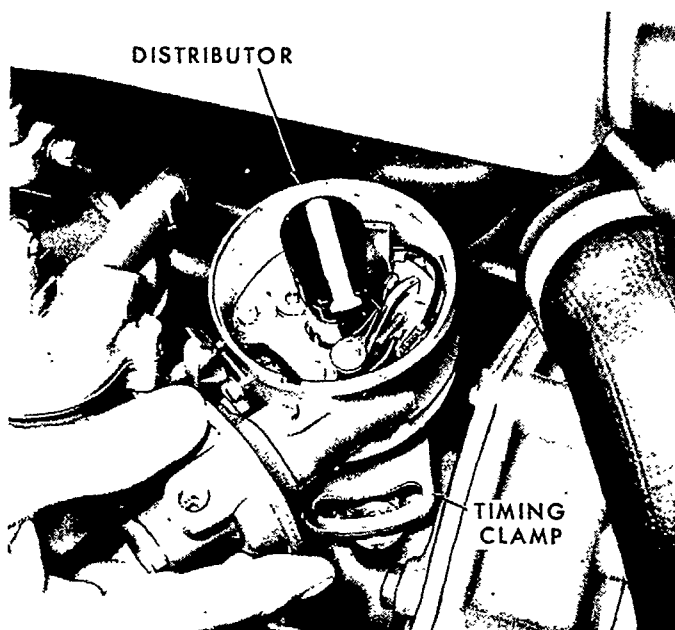

Figure 64
5. Remove the distributor timing clamp retaining bolt and lift the distributor from the drive housing, Figure 64.